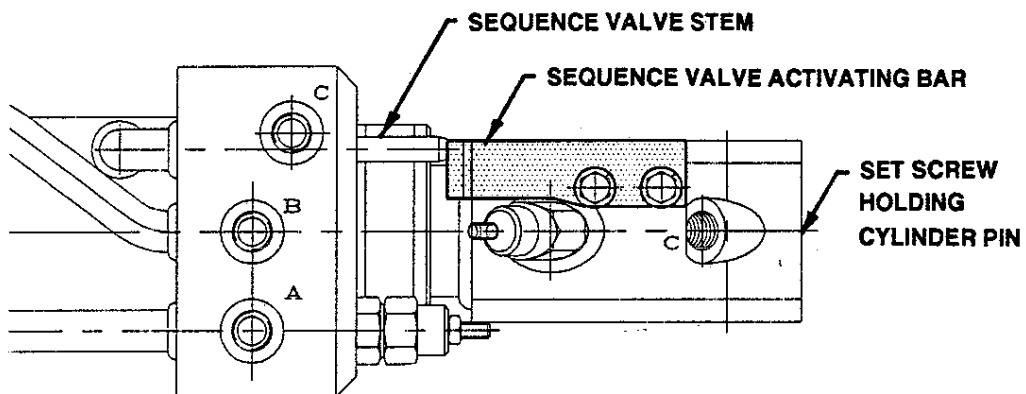

Figure G-5. CYLINDER ROD-END
4. Disconnect those hoses connected to the cylinder(s). Remove the sequence valve activating bar on the rod end (all cylinders except first extension). See figure G-5.
3. Remove the counterbalance valve and sequence valve activating bracket from rod end. See Figure G-5.